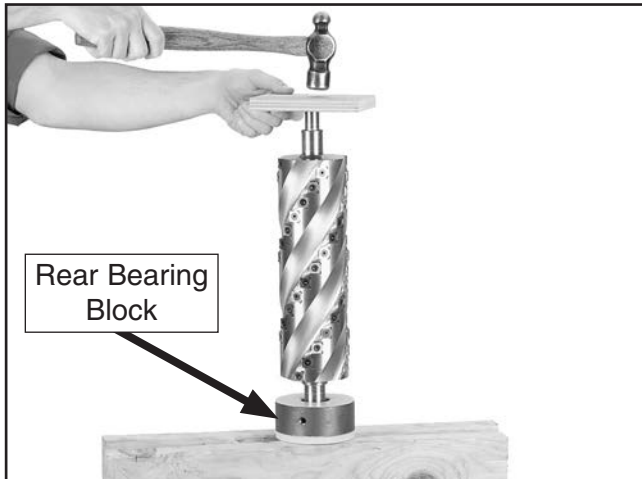

Figure 16. Seating rear bearing block.
- Stand the cutterhead upright between two 8" 2x4 blocks, rear bearing block side down, and use a hammer and a wood block to seat the cutterhead into the rear bearing block, as shown in **Figure 16**. Tap the wood block on the cutterhead until it meets resistance.